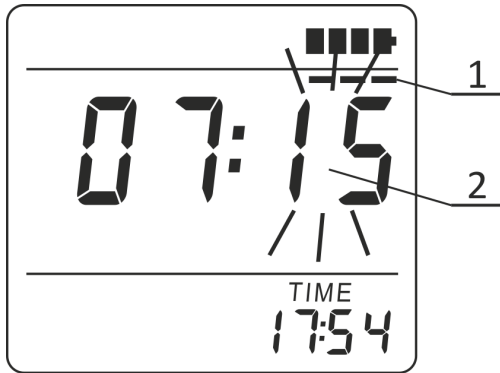

Figure 24 – LCD of the radiometer
- alarm clock symbol (1) (if the alarm clock is on);
- battery status symbol (2);
- time of the alarm clock activation (3);
- current time (4).
To proceed to the submode of alarm clock activation time programming, press and hold the THRESHOLD button until a stripe (1) “moving” across the instantaneous value indicator appears on the LCD, and the minute digits of alarm clock activation (2) start blinking (Figure 24).